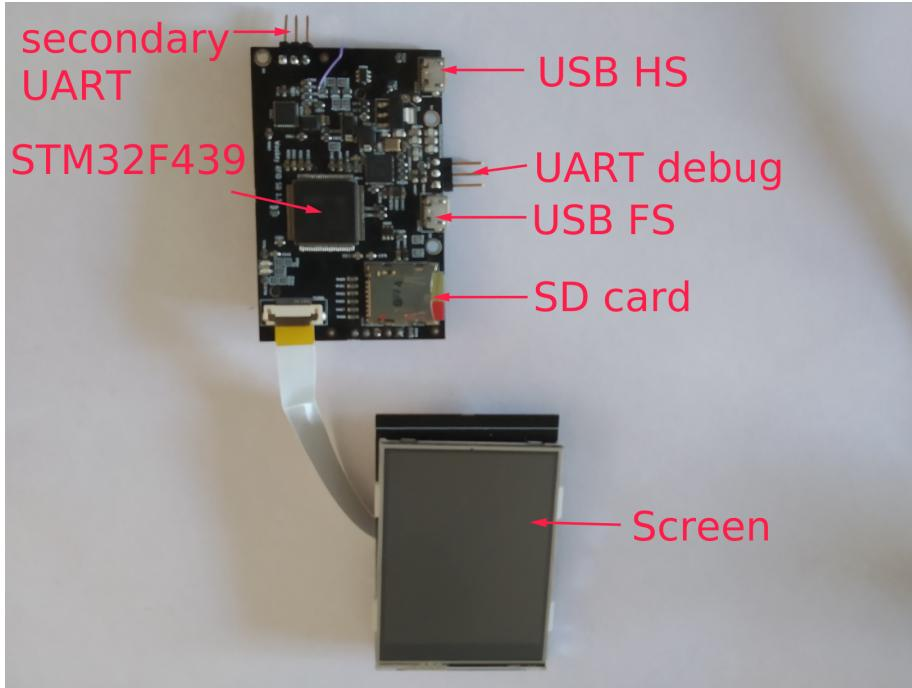
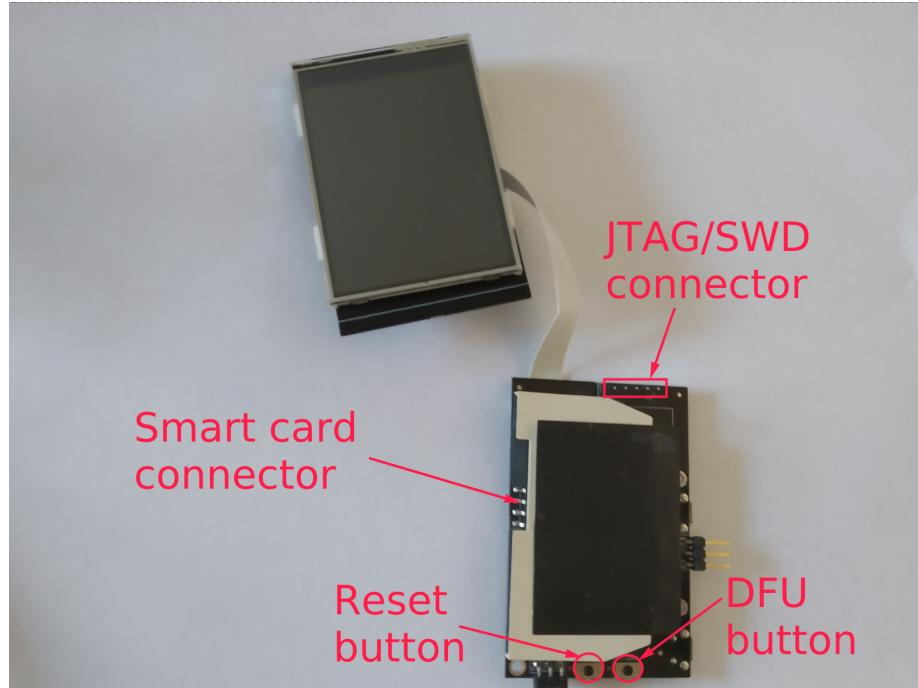

Fig. 1. WooKey main PCB (front), screen PCB and screen
Fig. 2. WooKey main PCB (back), screen PCB and screen
- (1) **A functioning WooKey device** (see Figure 1 and Figure 2) composed of a main board PCB, a screen PCB as well as the touch screen.
The front side of the WooKey PCB (Figure 1) presents the following noticeable elements:
The JTAG/SWD connector can be found on the back side (Figure 2), and must be connected to a JTAG flasher (see below, this is a Discovery board in our case). Other noticeable elements on the back side of WooKey are the reset and DFU buttons, obviously used to reset the board and respectively put it in DFU mode when pressed at boot time.